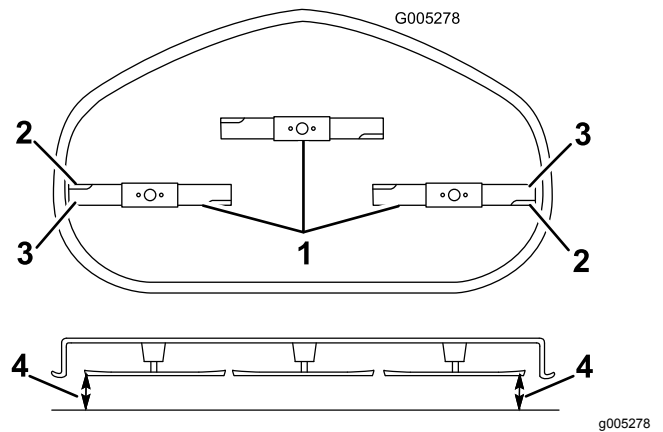

Figure 54
4. Carefully rotate the blade(s) so that they are all side to side (Figure 54).
5. Measure between the outside cutting edges and the flat surface (Figure 54).